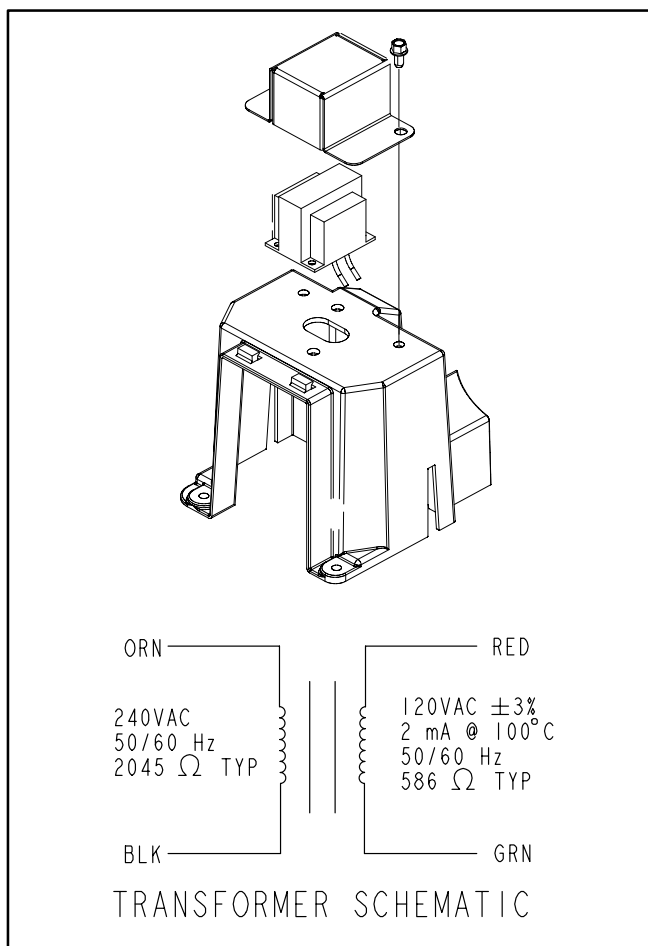

FIGURE 5-6. 3-PHASE VOLTAGE SENSE TRANSFORMER
**Mounting:** The voltage sense transformer for 3-phase generators is mounted as shown (Figure 5-6). It is connected as shown on Page 6-6 to sense output voltage in L1.